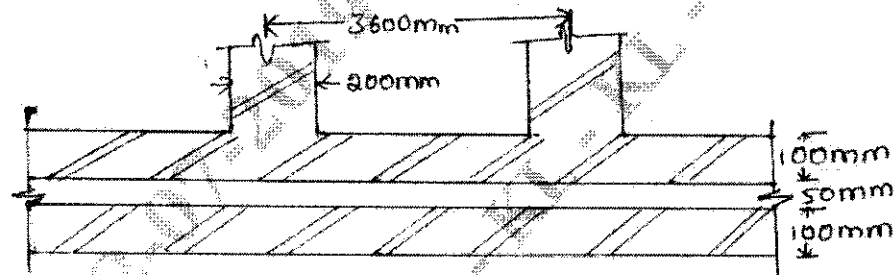

Fig.Q6(b)
- b. Design a interior cavity wall for a three storey building. The ceiling height of each storey being 3m. The wall is stiffened by intersecting walls at 3600mm center to center. The thickness of intersecting wall is 200mm. Assume roof load as 16kN/m and floor load as 12.5 kN/m. Refer the Fig.Q6(b). (10 Marks)